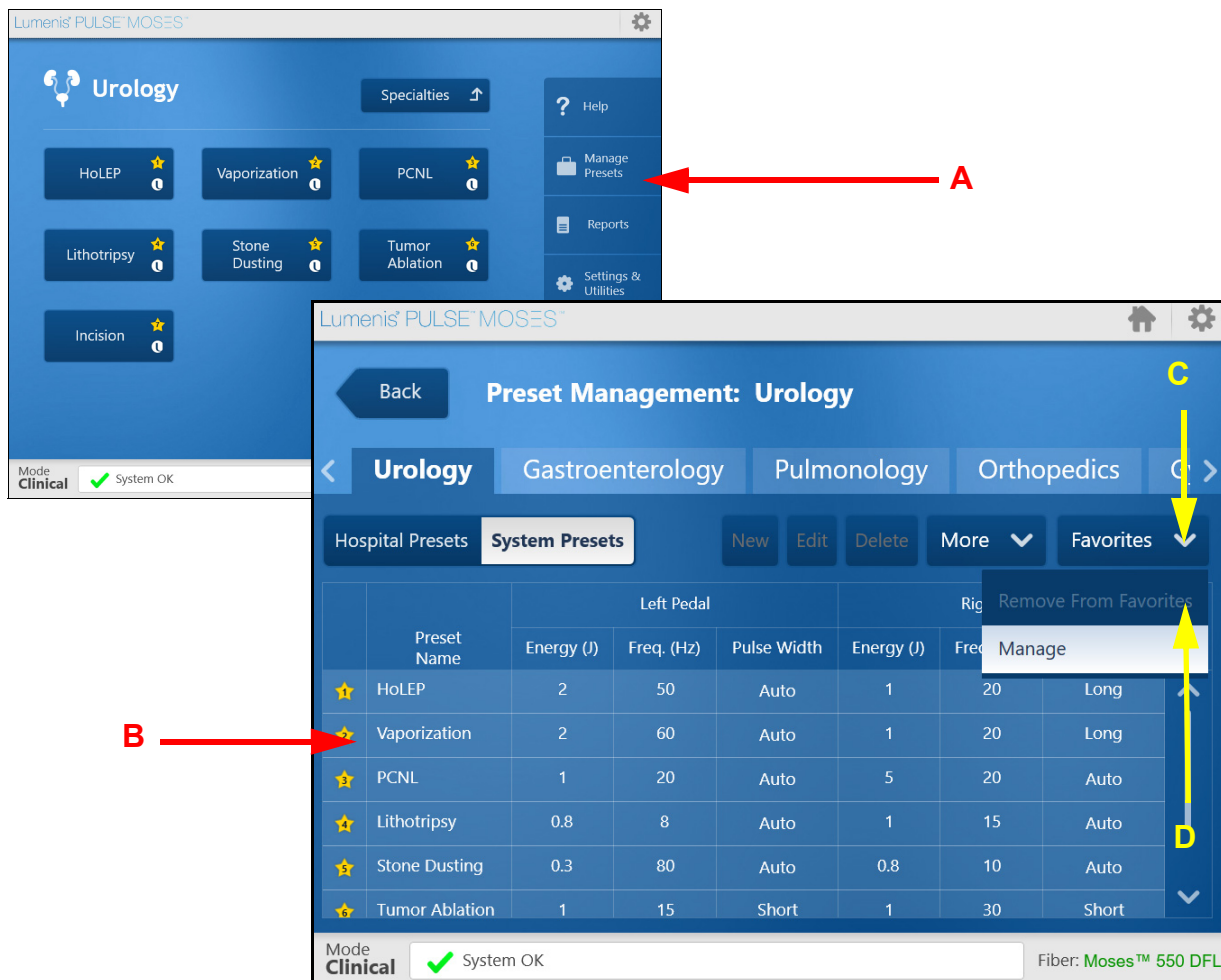

Figure 52: Preset Management - Remove from Favorites
1. From the **Home** screen, press **Manage Presets** (A, see Figure 52).
2. On the **Preset Management** screen, select a favorite preset by pressing it (B), press the **Favorites** button (C) and select **Remove from Favorites** (D) from the dropdown menu.